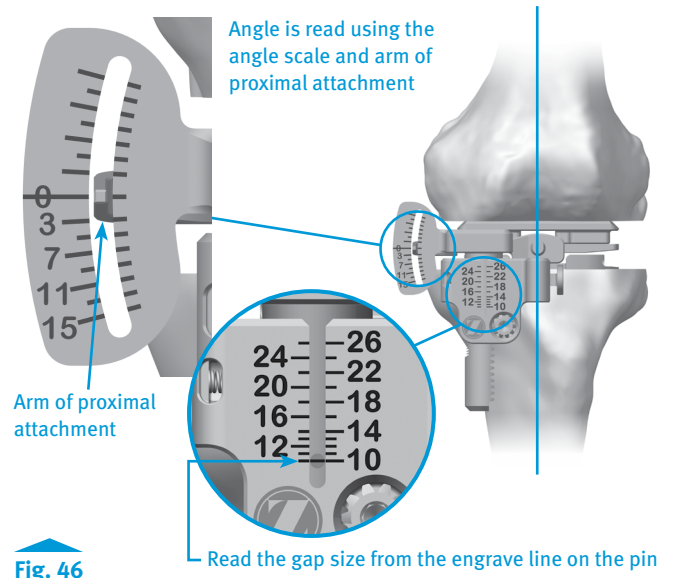
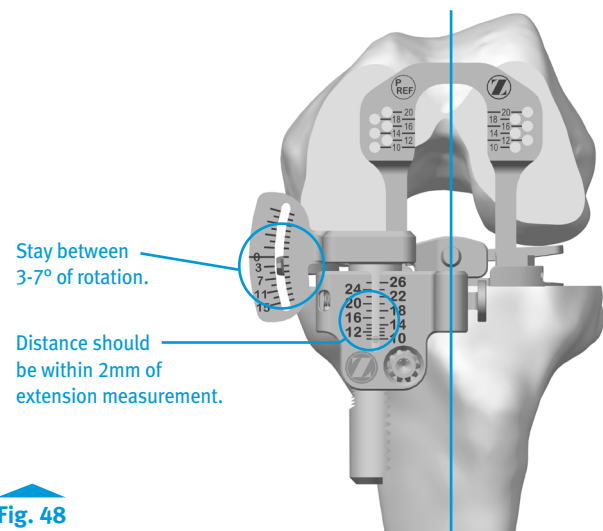

Fig. 46
Fig. 48
- While assessing the gap, it is very important to align the tensor's center pivot of the femoral paddle with the center of the knee and the AP Axis of the tibia (medial 1/3 of the tibial tubercle and the anterior insertion of the posterior cruciate) (**Fig. 46 & Fig. 48**).
- The angle scale on the medial side of the instrument should read 0° indicating a rectangular gap. If needed, balance the extension gap using ligament release (**Fig. 46**).
- After the gap is balanced and rectangular, measure the gap distance using the gap scale on the anterior face of the *Zimmer FuZion* Tensor (**Fig. 46**).
- Bring the leg into 90° of flexion. Insert the *Zimmer FuZion* Tensor between the cut tibial surface and the uncut posterior condyles, as shown (Fig. 48).
- Using the 3.5mm Hex Head Screwdriver, apply the appropriate amount of force to distract the joint (Fig. 48).
- Ensure that the scale reads between 3-7° of rotation using Whiteside's line and/or the epicondylar axis as an additional visual reference to confirm component rotation (Fig. 48). If the collateral soft-tissue does not provide adequate stability, the surgeon should use his/her professional medical judgment to assess whether a more constraining implant/system or revision implant/system is necessary.
- Double check the posterior cut creates a flexion gap within 2mm of the extension gap (Fig. 48).
Caution: Double check, when measuring in flexion, that the distance on the tensor scale is within 2mm of what was measured in extension. Remember to use the +0mm *Zimmer FuZion* Femoral Paddle to evaluate the joint space prior to resection and +9mm *Zimmer FuZion* Femoral Paddle to evaluate the joint space after resection (Fig. 48).